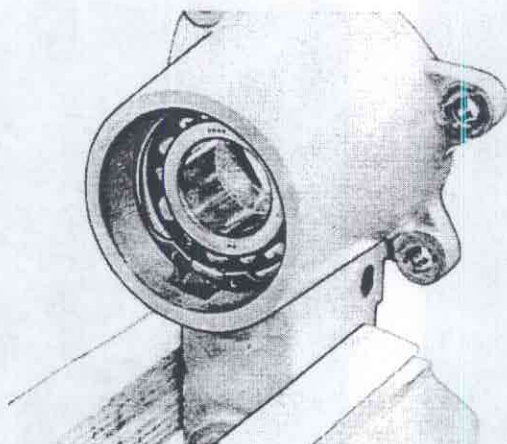

Fig. 43-164. Pressing out bearing
8. Remove the circlips, Fig. 43-164. for the bearing and press out the bearing with 2267.